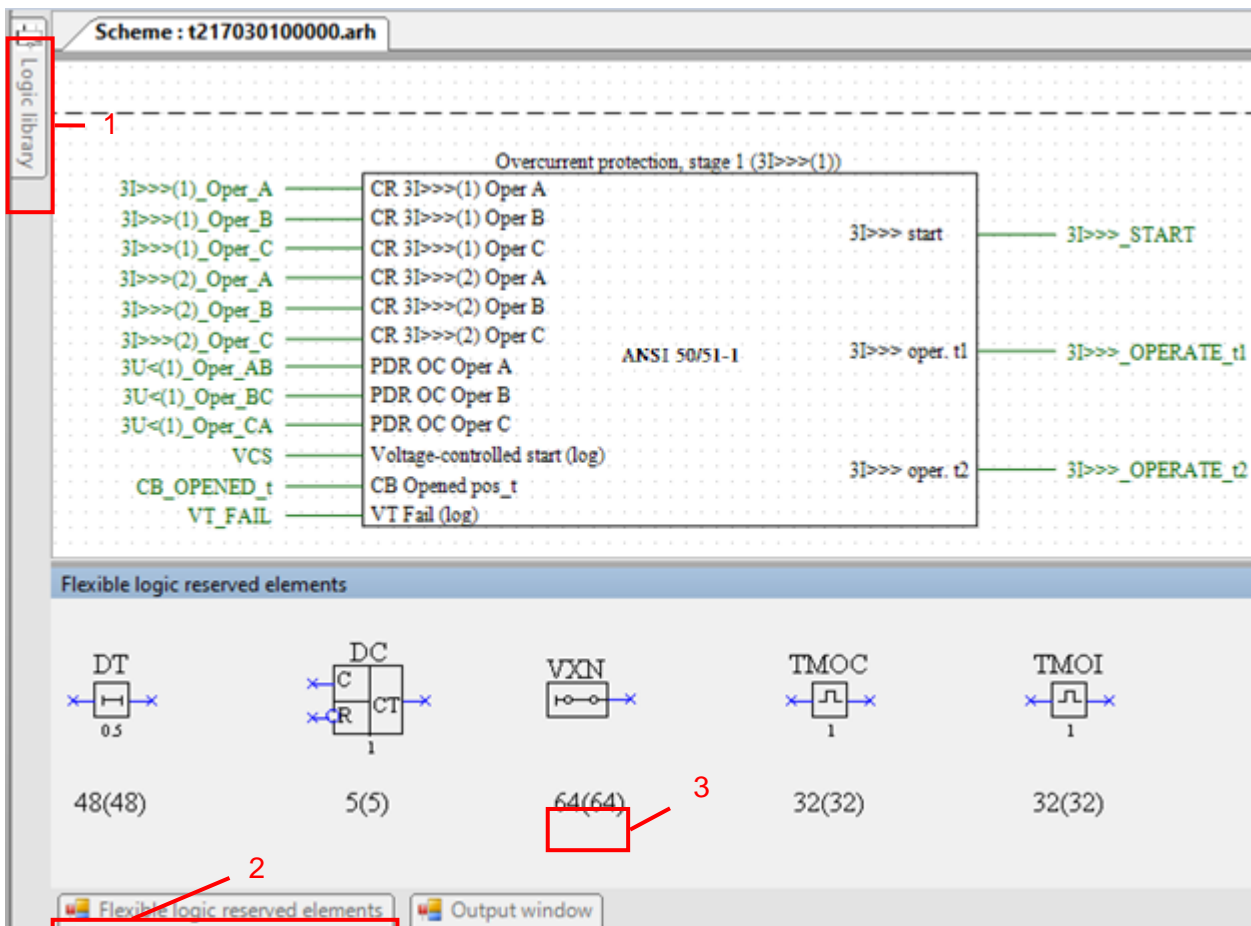

Figure 195 – Editing of programmable logic diagram
In the programmable logic, elements without settings in the **Library** tab (figure 195, item 1) or with settings in the **Reserved elements of additional logic** tab (figure 195, item 2) can be used. The use of logic elements with settings, as well as R_Trigger and F_Trigger triggers, is strictly limited. These elements are available in the special **Reserved elements of additional logic** window. The maximum number of elements is indicated in brackets, and the available quantity is outside the brackets (figure 195, item 3).